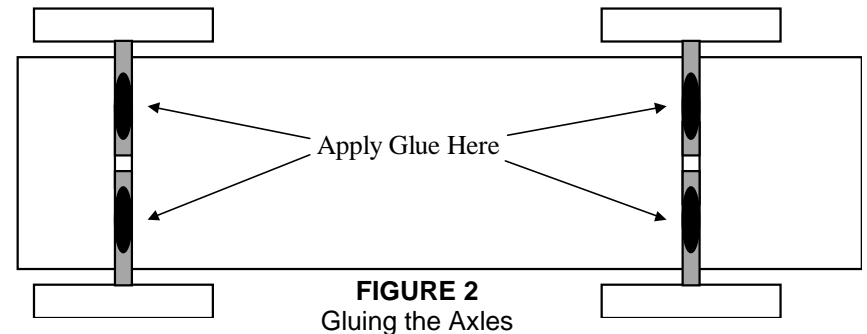

FIGURE 2
13. **Glue Axles to Body** - To keep the axles from becoming misaligned during the race, place glue in the axle slots on top of the axles (see Figure 2). Use epoxy, hot glue, white glue, or a similar product. *Keep the glue away from the wheels!* Remove excess glue, making sure that the glue does not hang down below the car, reducing the clearance to less than 3/8". Set the car on its back to dry for 24 hours.